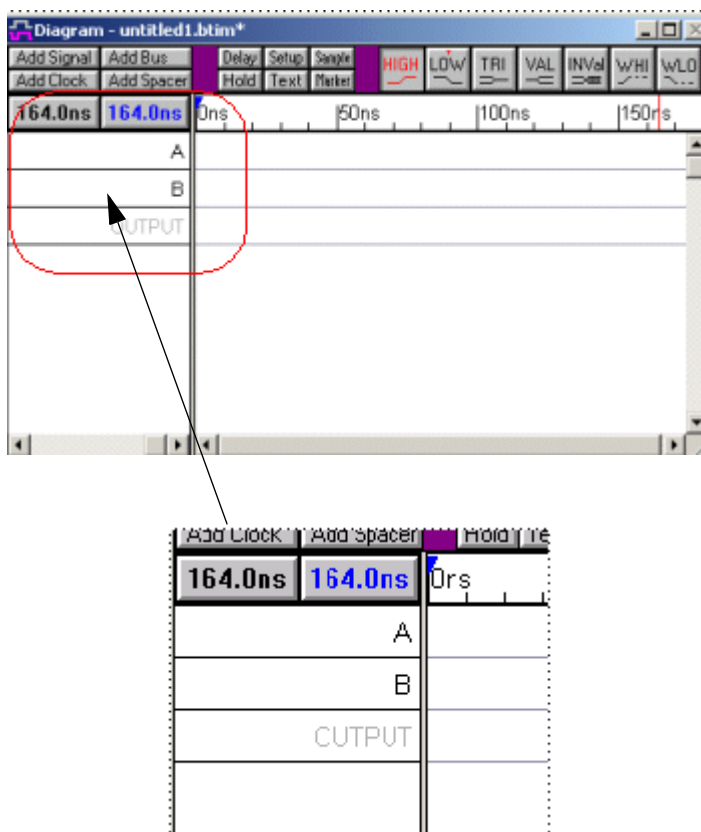

Figure 5-5. WaveFormer Lite Timing Diagram Window
1. Double-click the WaveForm Lite icon in the Libero IDE, or right-click the *andgate* file in the Design Hierarchy tab and select *Create Stimulus*. WaveFormer Lite launches, with the port signals appearing in the Diagram window, as shown in Figure 5-5.